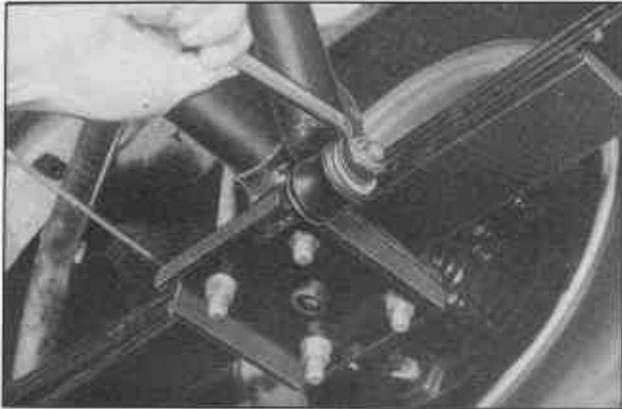

Fig. RA-40 Removing the shock absorber lower end
2. Remove the lower end of the rear shock absorber from spring seat (See Fig. RA-40).